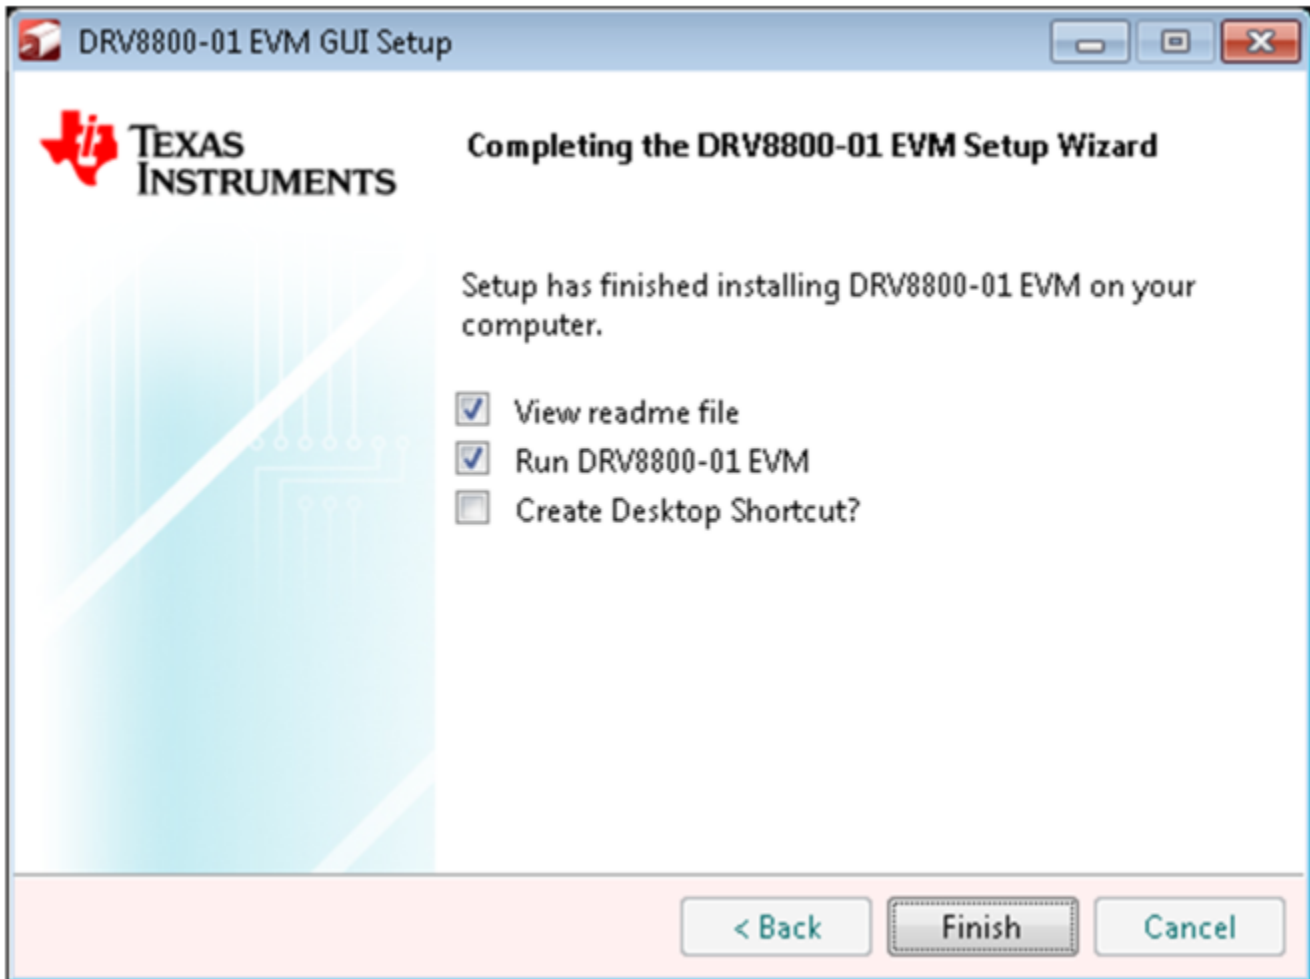

Figure 18. Installation Complete
19. The Figure 18 screen appears denoting the completion of DRV8800-01EVM GUI Installation. Click **Finish**.